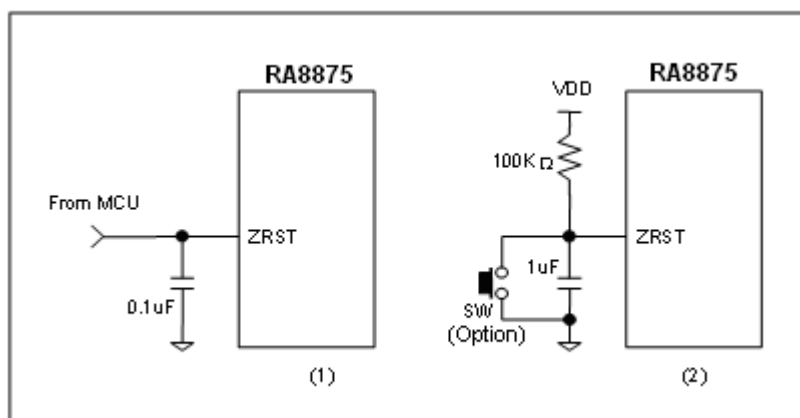

Figure 6-45 : Suggestion circuit for RST# Pin
Figure 6-45 is an example for Reset application circuit. It could be controlled by MCU such as (1) of Figure 6-45, or generated by a RC circuit such as (2) of Figure 6-45.